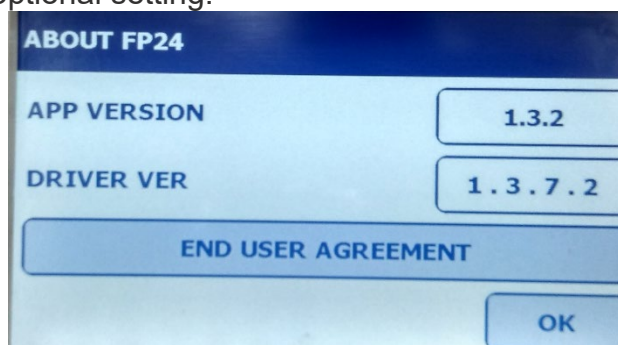

Figure V-34: About FastPrep-24 5G
11. Verify a successful upgrade installation using the [ABOUT FP24] button found under [ADMIN TOOLS]. The ‘App Version’ and ‘Driver Version’ will correspond to the new upgrade(Figure V-34).